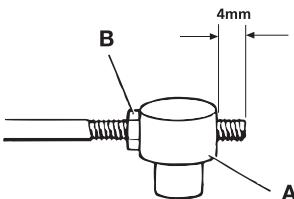

Fig. 8
- Thread the pivot (A fig.8) on to the rod until 4 mm of the rod protrudes (see fig. 8). Secure the pivot by tightening the nut (B fig. 8)